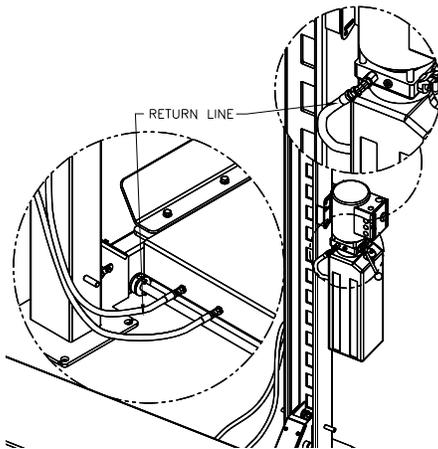

Fig 17 – Return Line, Front
- 34) Remove the 3/8-18 NPT plug on the side of the power unit and attach the 90 degree elbow at a slightly downward angle. Secure the hose to the bulkhead shown in Fig 17.